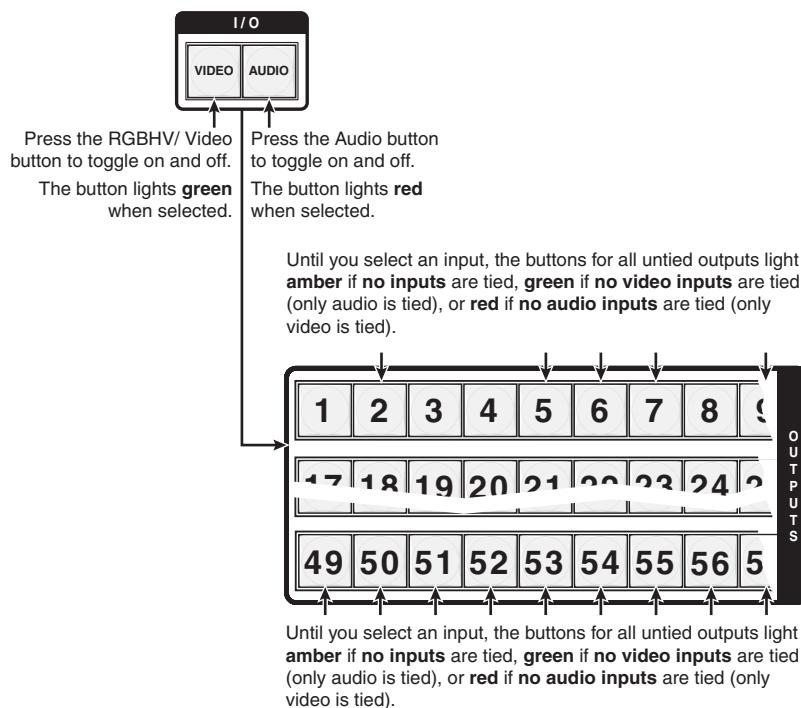

Figure 3-49 — Select RGBHV or video and audio
3. To select both video and audio for viewing and muting, if necessary, press and release the RGBHV (CrossPoint 450 Plus switchers) or Video (MAV Plus video switchers) button and the Audio button (figure 3-49).